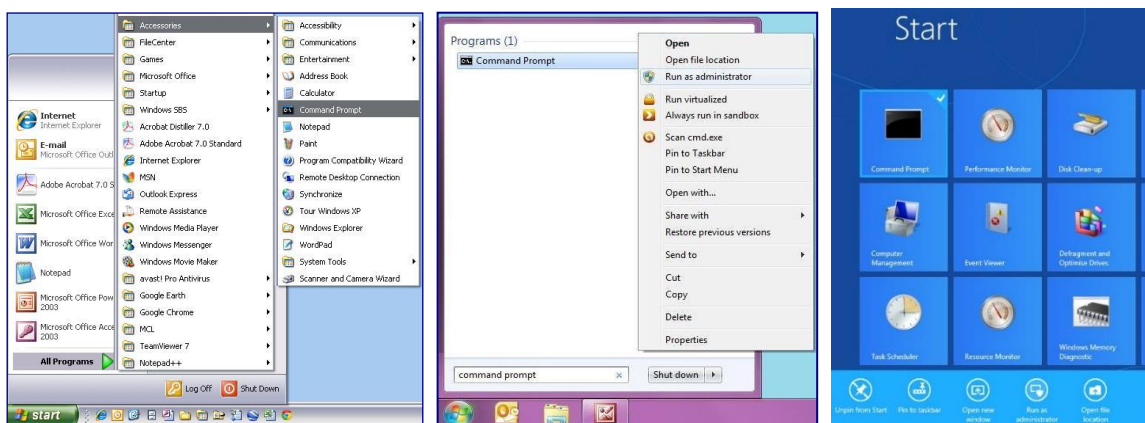

Fig 1 - Opening the Command Prompt in Windows XP (left), Windows 7 (middle) and Windows 8 (right)
- a) For Windows XP® (see Fig 1):